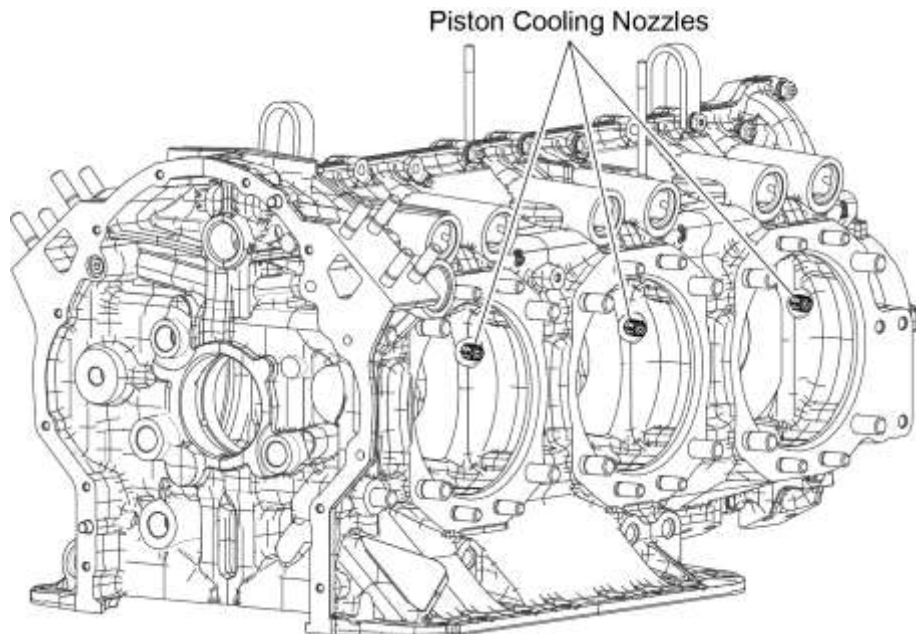

Figure 18
R. Remove the six piston cooling oil nozzles from the crankcase (Figure 18).